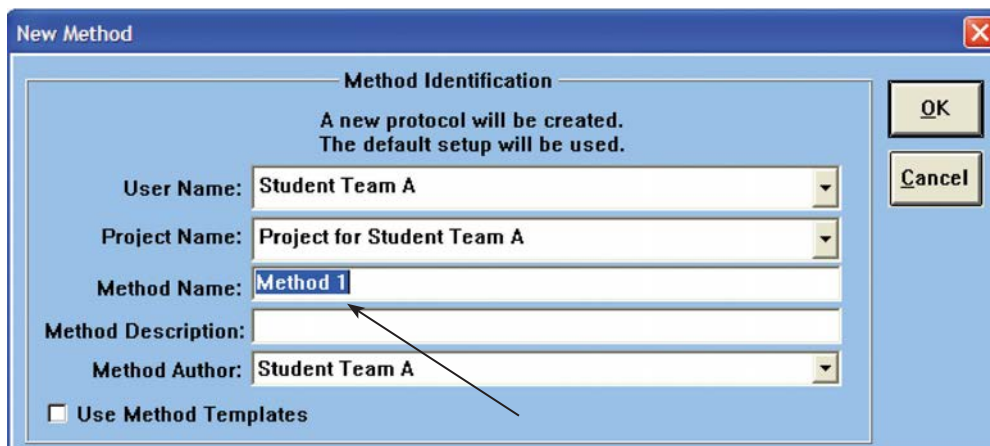

Figure 8.18. BioLogic DuoFlow system New Method dialog box.
5. Select the yellow New icon again and choose New Method from the options displayed (Figure 8.18). Enter your method name (or use default Method 1).